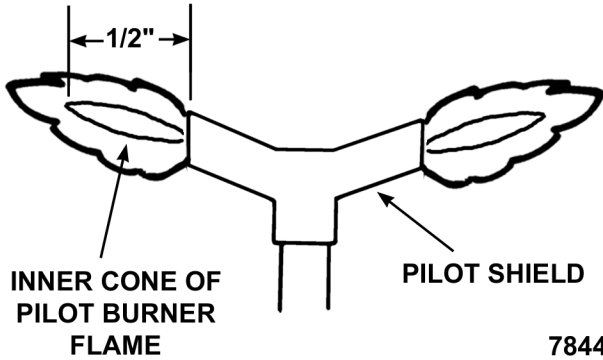

Fig. 34
- Verify flame does not extend beyond the outer edges of pilot shield $\frac{1}{2}$ ", or extends more than $\frac{1}{2}$ ", (Fig. 34). If adjustment is necessary continue with procedure.